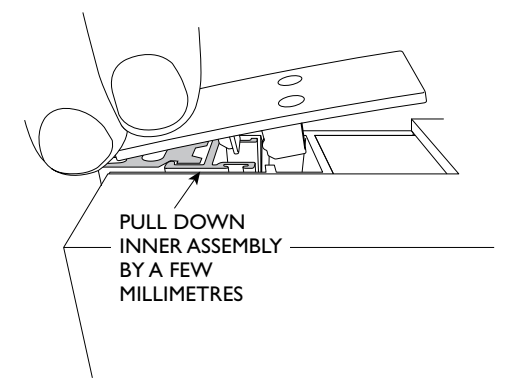

FIG.6
STEP 10 For soft timber jambs, position striker button where adjustment nut meets door jamb. (FIG.6)